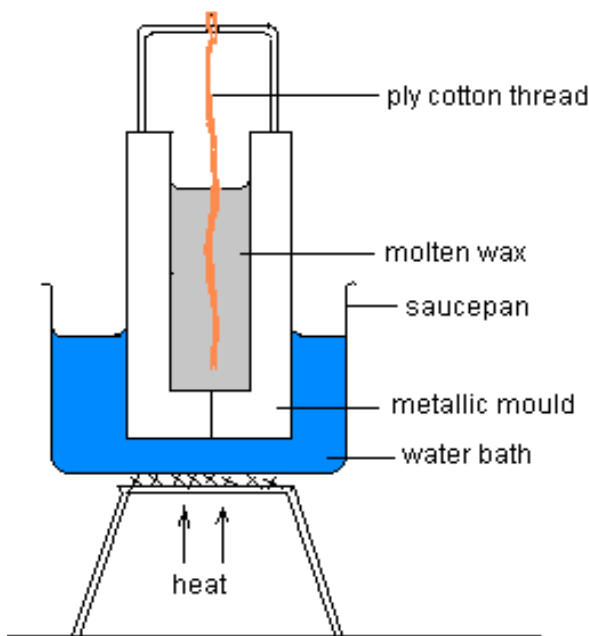

Figure 3.2: Making a candle
1. Put 1kg of wax in the saucepan and melt it over a water bath as in Figure 3.2.
4. Suspend the cotton thread into the centre of the mould and carefully pour the hot wax into the mould as in Figure 3.2.